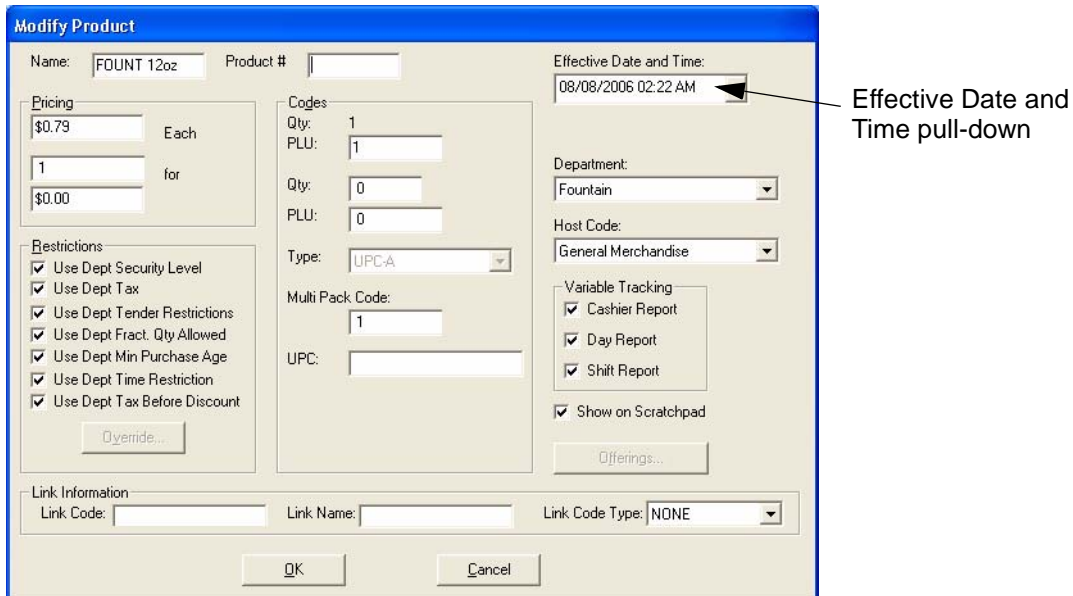

Figure 10-17 Future Price Modify Product Window
2. To modify the future price of a product, select the desired product and then click **Future Price** to access the Modify Product programming window. See Figure 10-17.